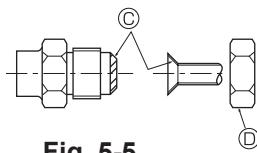

Fig. 5-5
(A) (Fig. 5-5)
5.5. Connecting pipes (Fig. 5-4) (Fig. 5-5)
- The indoor parts of the drain pipe should be wrapped with polyethylene foam insulation materials (specific gravity of 0.03, thickness of 9 mm (3/8 inch) or more). [Fig. 5-5]
- Apply thin layer of refrigerant oil to pipe and joint seating surface before tightening flare nut. (A)
- Use 2 wrenches to tighten piping connections. (B)
- Apply refrigerating machine oil over the entire flare seat surface. (C)
- Use the flare nuts as follows. (D)